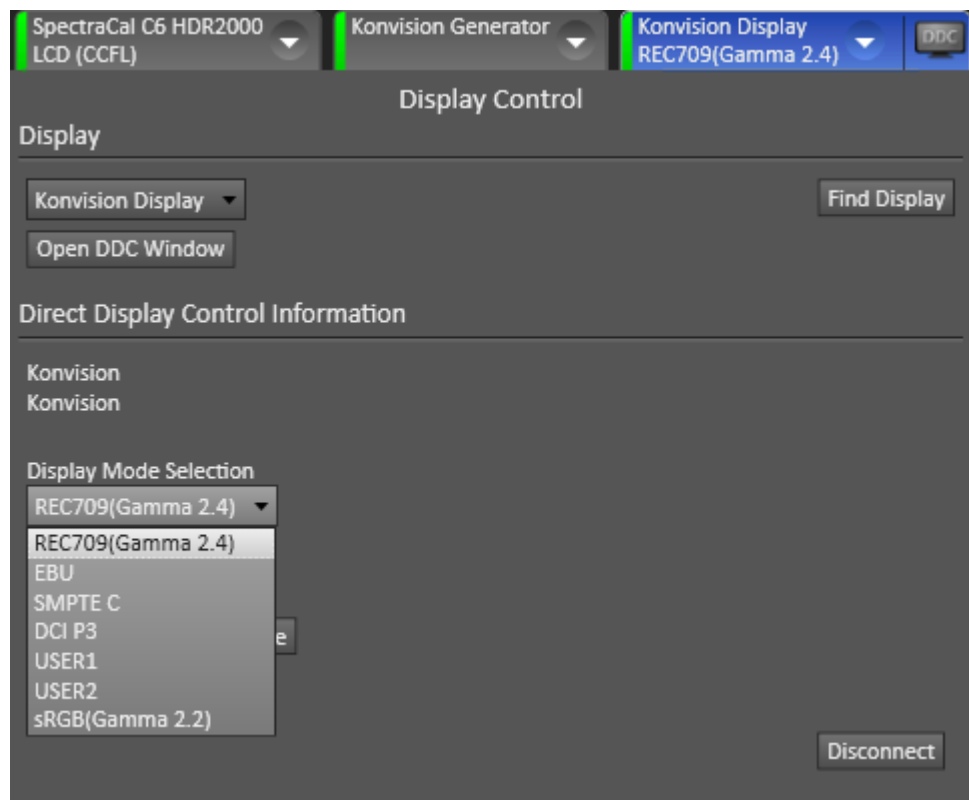
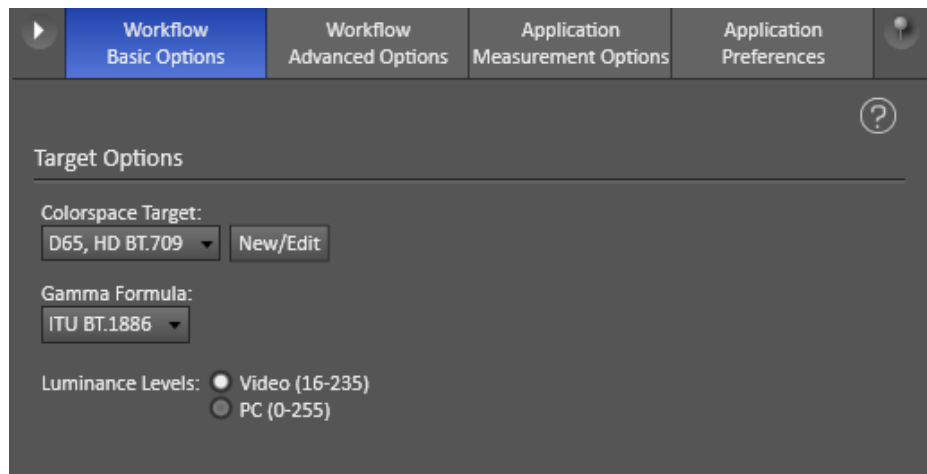

Figure 4. CalMAN Display Control tab, showing Display Mode Selections.
Figure 5. CalMAN Settings > Workflow Basic Options > Target Options.
1. On the CalMAN Display Control tab (Figure 4), select the desired Konvision ColorSpace mode (REC709, EBU, SMPTE C, DCI P3, USER1, USER2, or sRGB) into which CalMAN will automatically load the 3D LUT that it creates.
In CalMAN, under Settings > Workflow Basic Options > Target Options (Figure 5), select your desired calibration targets for the Konvision ColorSpace mode that you selected under *Display Mode Selection* on the *Display Control* tab (Figure 4).
2. In the monitor's on-screen *Imj Adjust* menu, under *ColorSpace*, select the mode that you had selected on the CalMAN *Display Control* tab (Figure 4) during 3D LUT calibration.